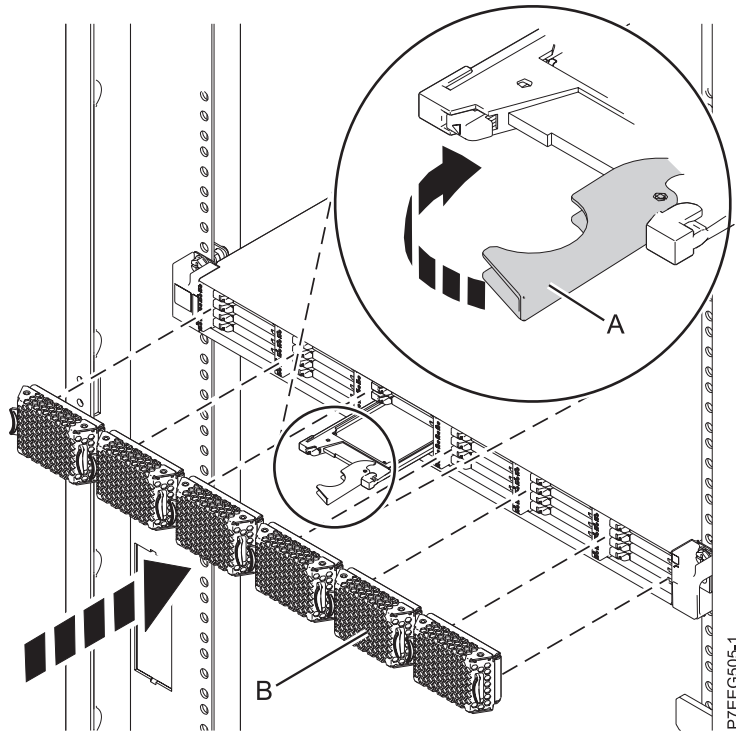

Figure 43. Replacing a solid-state drive in the 5888 PCIe storage enclosure.
4. When the solid-state drive identify LED turns on solid, slide the solid-state drive all the way into the 5888 PCIe storage enclosure until it is fully seated. Then rotate the handle **(A)** to the locked position. See Figure 43 on page 65.